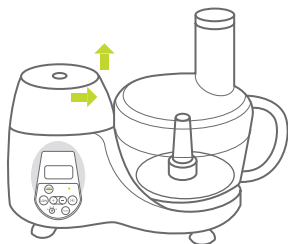

Fig. 32
1. Remove the housing cap. (Fig. 32)